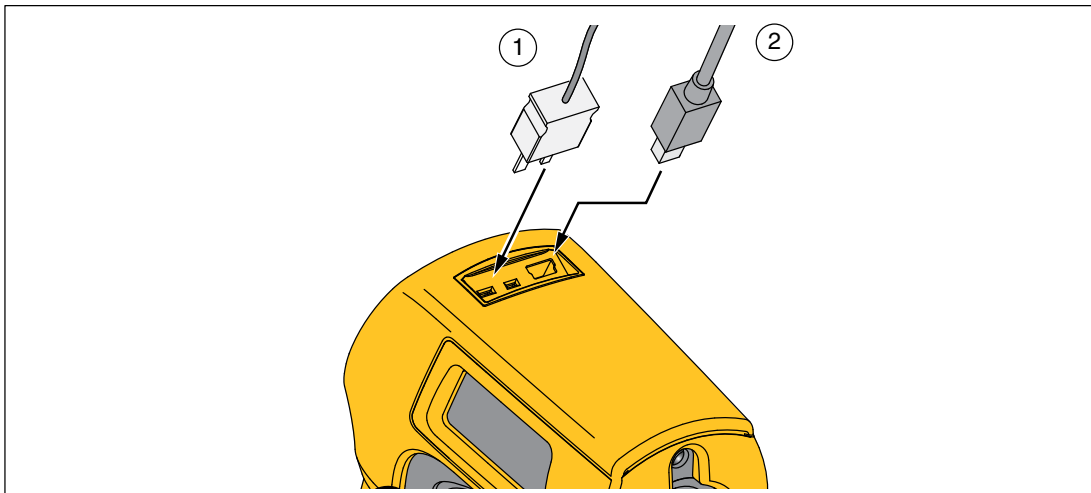

Figure 7. Thermocouple and USB Connections
The stored data can be downloaded to a personal computer (PC) with the included USB cable and the included FlukeView® Forms Documenting Software. See the FlukeView® Forms documentation for details. The USB input ② is located on the top of the Product next to the external probe input ① (see Figure 7).
The Product comes with a bead K-type thermocouple probe. The probe attaches to the Product via the probe input located on the top of the Product (see Figure 7).